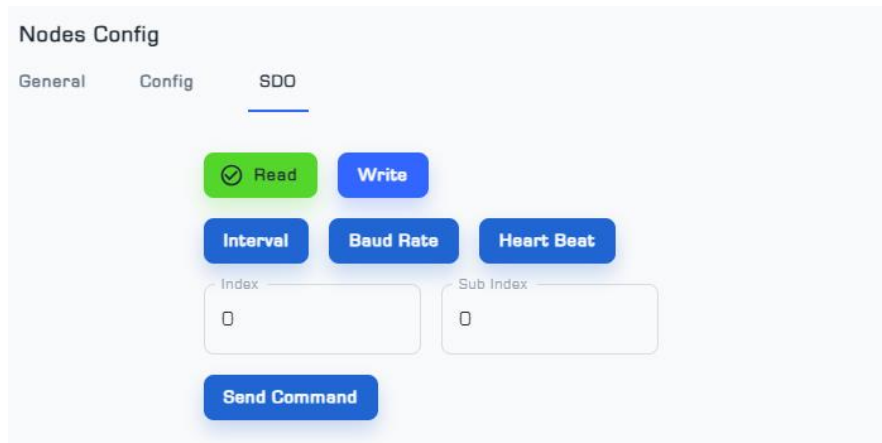

Figure 6: SDO Menu from Nodes Config page
■ The SDO menu is used to change the parameters of Interval ¹, Baud Rate ², and Heartbeat³ (Figure 6).